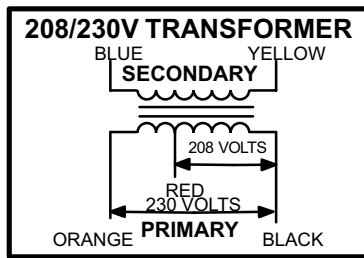

FIGURE 7
All LGA/LCA/LHA series units use a single line voltage to 24VAC transformer mounted in the control box. Transformer supplies power to control circuits in the unit. The transformer is rated at 70VA and is protected by a 3.5 amp circuit breaker (CB8). The 208/230 (Y) voltage transformers use two primary voltage taps as shown in figure 7, while 460 (G) and 575 (J) voltage transformers use a single primary voltage tap.
All LCA/LHA series units with 45 - 90 kW electric heat use a single line voltage to 24VAC transformer mounted in the electric heat control hat section in the control box. The transformer supplies power to all electric heat controls (contactors and coils). The transformer is rated at 70VA and is protected by a 3.5 amp circuit breaker CB13. The 208/230 (Y) voltage transformers use two primary voltage taps as shown in figure 7. Transformer T2 is identical to T1.